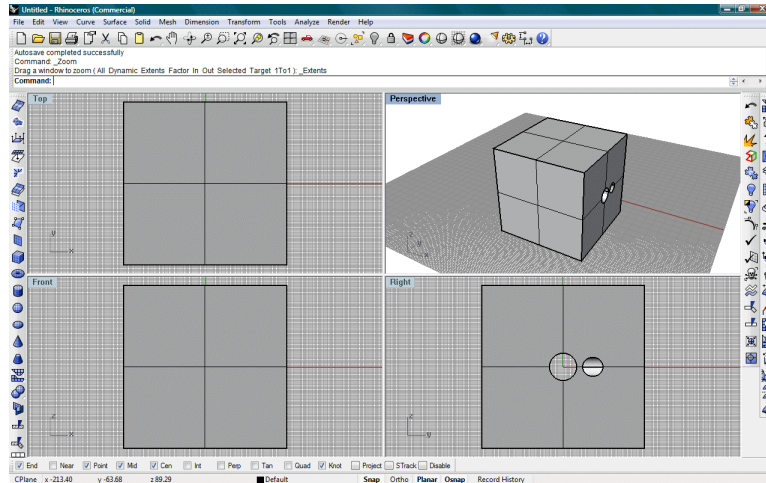

Figure 94: Result of the Boolean difference.
47. To **subtract** the tunnels from the cube, select the **Solid|Difference** menu item. For the **First set of polysurfaces**, select the box, then type **<ENTER>**. For the **second set**, select the bifurcation, then **<ENTER>** to complete the Boolean difference operation (Figure 94).